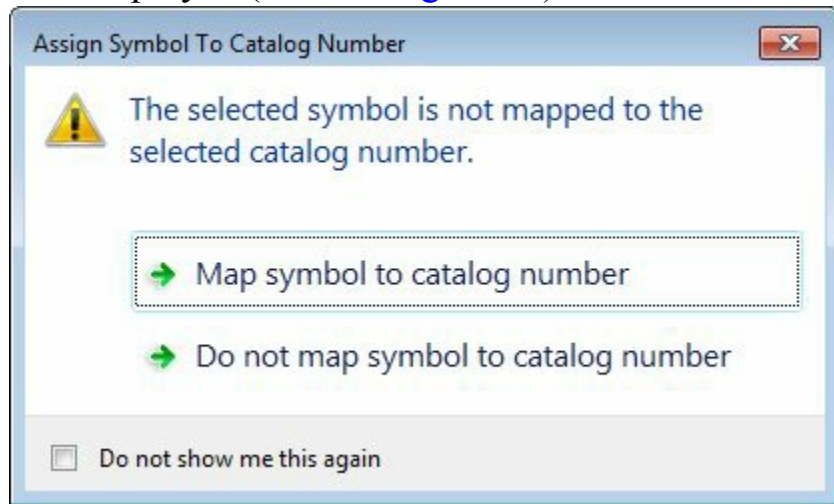

Figure-13. Assign Symbol To Catalog Number dialog box
- Click on the **OK** button from the dialog box. If the **Assign Symbol To Catalog Number** dialog box is displayed (refer to Figure-13) then click on the **Map symbol to catalog number** button from it.